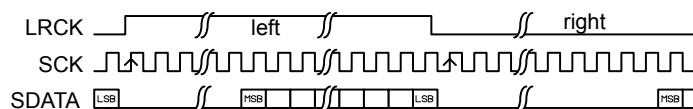

Figure 68: CONFIG.ALIGN set to right justified
- When using right-alignment, each half-frame ends with the LSB of the sample value. This is illustrated in Figure 68: CONFIG.ALIGN set to right justified on page 234.